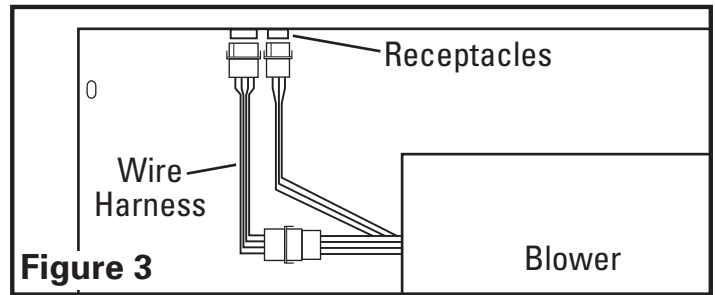

Figure 3
4. Plug both the 3 wire and 4 wire quick connect cords from the blower into the appropriate receptacles located on the inside front of the hood canopy. These cords will only fit into the receptacles one way (**Figure 3**).
5. Plug both the 3 wire and 4 wire quick connect cords from the blower into the appropriate receptacles located on the inside front of the hood canopy. These cords will only fit into the receptacles one way (**Figure 3**).